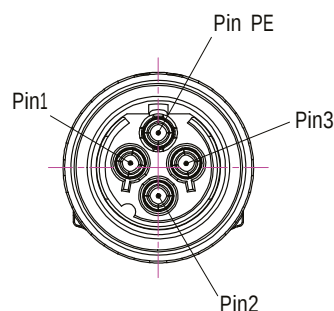

figure 4-15 Mains power cable - AC
4. Wire the power cable to the junction box or receptacle. Refer to the color code and pin numbers shown in figure 4-15 (AC cable), and table 4-3.